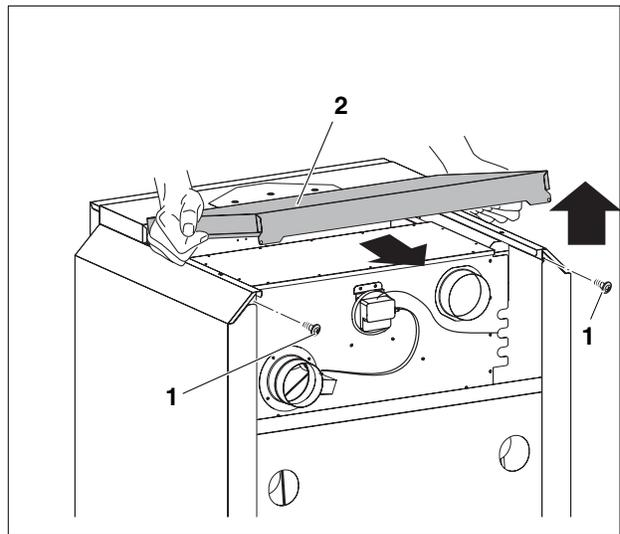

Fig. 34 Removal of the Top rear jacket cover
1. Remove both screws (Fig. 34, **Item. 1**) on top rear jacket cover (Fig. 34, **Item. 2**).
2. Remove top rear jacket cover (Fig. 34, **Item. 2**).